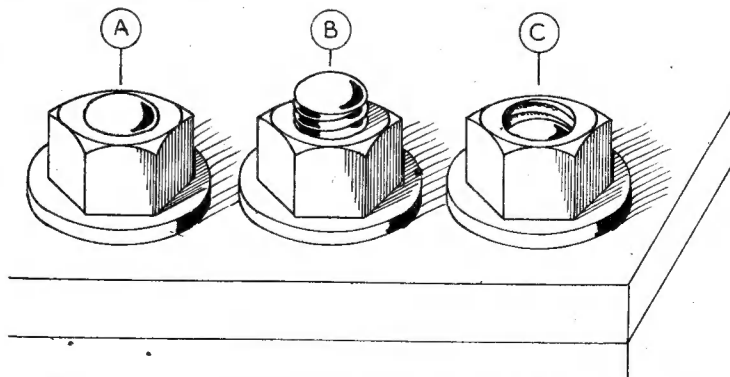

Fig. 2. "A"—a well-fitted bolt; "B" and "C" show faulty fitting
Fig. 2 (A) shows how a neatly fitted bolt should look, but all too often one sees the bolt ends left standing proud as in Fig. 2 (B) or, worse still, only some of the nut threads engage the bolt, as in Fig. 2 (C). Eyesores such as these are, in some situations, silent witnesses of indifferent craftsmanship and cannot escape the scrutiny of a competition judge.
Finally, here is a container for pieces of rod or strip up to about 1 ft. in length. It consists simply of a piece of sheet metal bent as shown in Fig. 2, with wooden ends fixed in with screws. If the edges of the metal sheet are bent over as shown, the containers can be stored in slides below shelves, otherwise they can rest on a skeleton shelf consisting of a couple of bars. The dimensions can be varied to suit individual requirements.